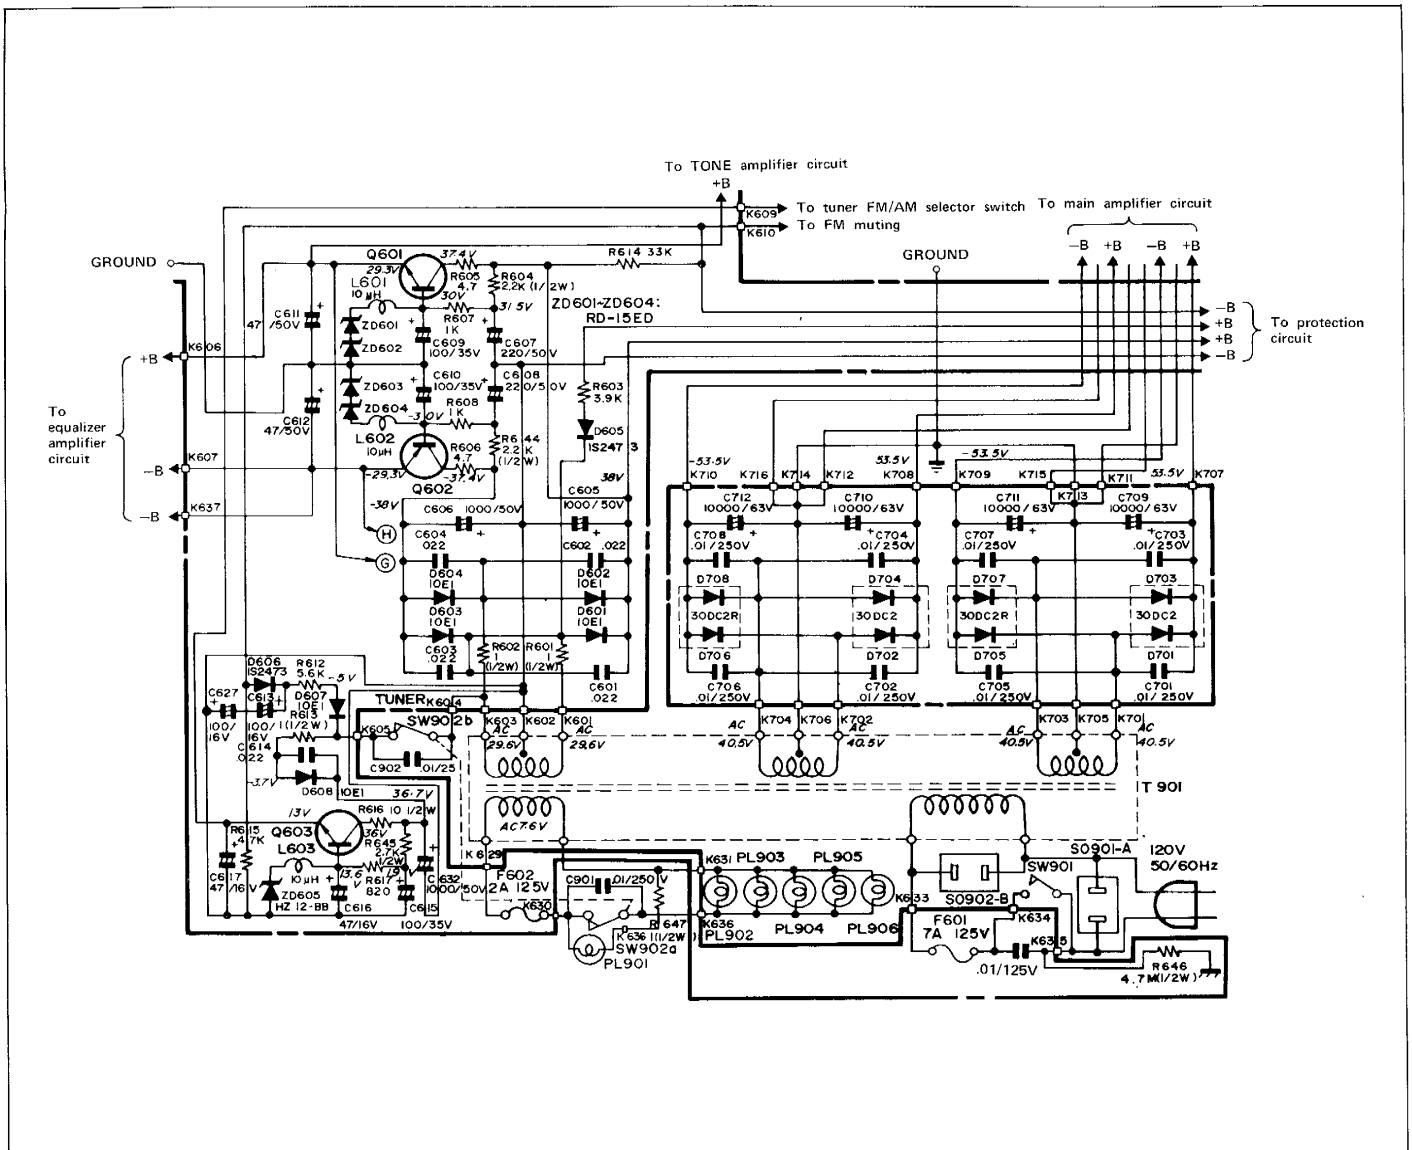

Figure 22 POWER SUPPLY CIRCUIT
**POWER SUPPLY CIRCUIT** (Refer to Figure 22)